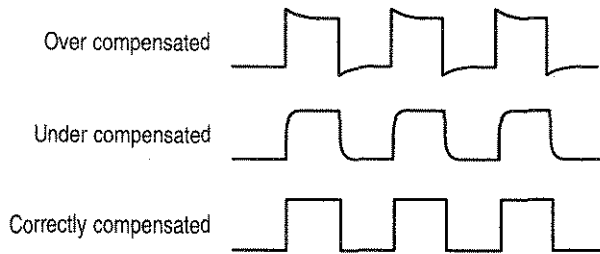

Figure 2: Typical Compensation Waveforms
9. Observe the displayed waveforms and compare them to the waveforms shown in Figure 2. If either probe needs to be adjusted, proceed to step 10. If either probe does not need to be adjusted, proceed to the Functional Check on page 6.